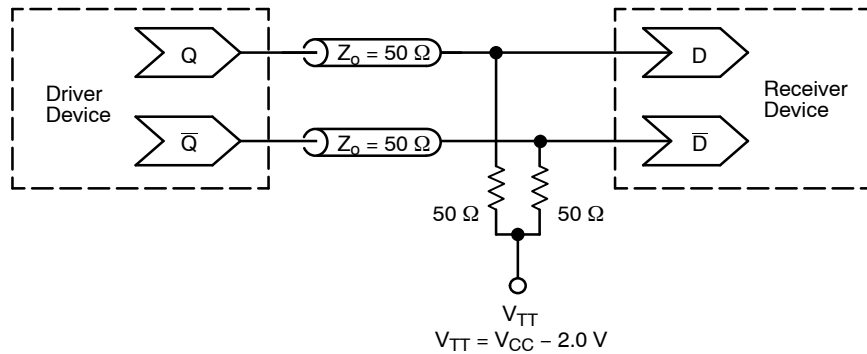

Figure 10. Typical Termination for Output Driver and Device Evaluation
2. All loading with 50 Ω to $V_{CC} - 2.0\text{ V}$ (see Figure 10).
2. All loading with $50\ \Omega$ to $V_{CC} - 2.0\text{ V}$ (see Figure 10).
1. Measured using a 750 mV source, 50% duty cycle clock source. All loading with $50\ \Omega$ to $V_{CC} - 2.0\text{ V}$ (see Figure 10).